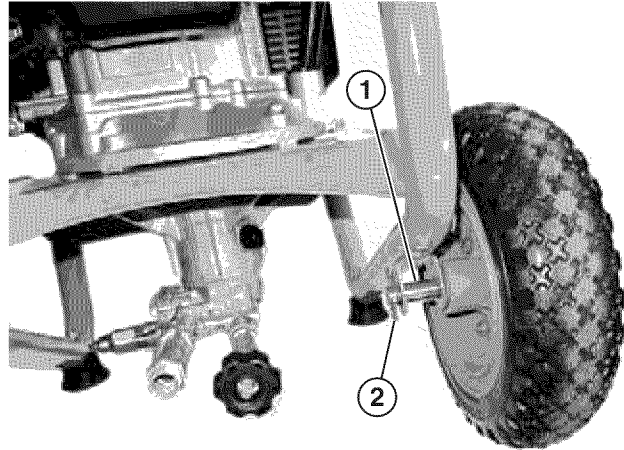

Figure 10 – Installing Wheel Axle
- WP2800 only: Install the axle pin through the axle bracket, and secure with lock pin (see Figure 10).